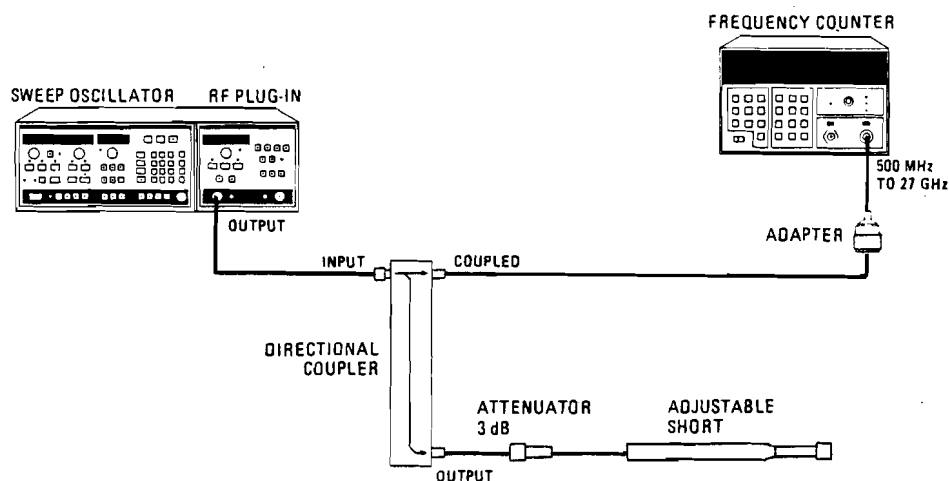

Figure 4-6. Frequency Change with 3:1 Load SWR Test Setup
12. Connect equipment as shown in Figure 4-6. Press the 8350A **INST/PRESET** key then the **CW** key.